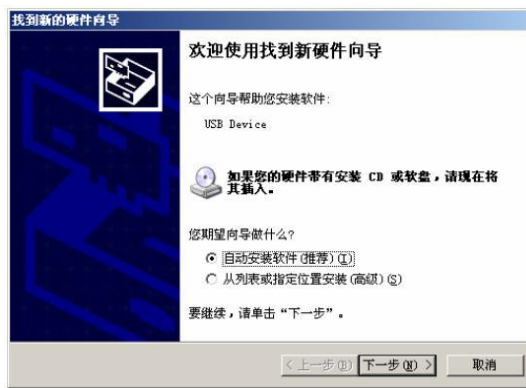

Figure 3.1 New Hardware Driver Installation Wizard
- B. After the file is copied, connect the MiniPCleCAN-II intelligent MiniPCle interface CAN card to the PC correctly; Window will detect the new hardware and automatically start the "Found New Hardware" wizard. Click "Next". See Figure 3.1.